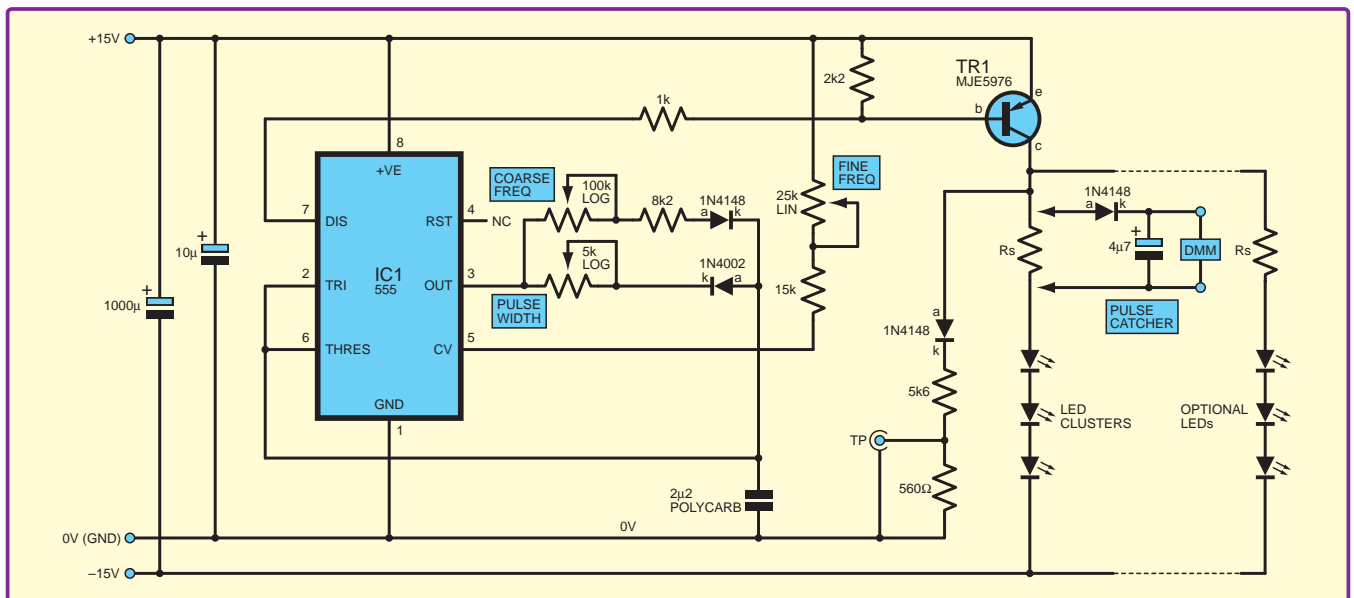

Fig.1. Circuit diagram for the Simple LED Stroboscope
The circuit (Fig.1) is basically the well known 555 'hysteresis' oscillator, rather than the standard form found in the manufacturer's handbook. This allows the 'on' time and 'off' time to be controlled separately by diodes and leaves the discharge pin (7) free to drive the LEDs.